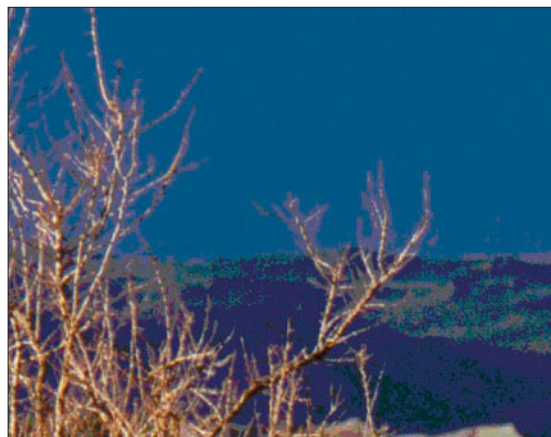

Figure 6.12
- Key areas to check for color fidelity include known color values, such as skin tones, blue sky, green foliage, and white objects. See Figure 6.12.